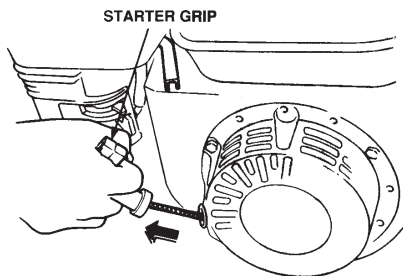

Figure 28. Starter Grip
- Grasp the starter grip (Figure 28) and slowly pull it out. The resistance becomes the hardest at a certain position, corresponding to the compression point. Pull the starter grip briskly and smoothly for starting.